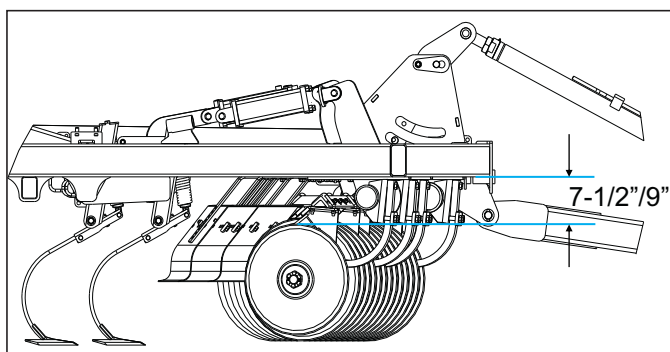

Figure 4-12: Disc Gang Operation
2. **MANUAL** – To set the disc gang depth with the manual ratchet jack adjustment, adjust the ratchet jack(s) on each section. Measure the distance between the top of the disc gang and the bottom of the Finishall frame. Setting this dimension to 7-1/2" will set the 22"diameter blades 1" above the sweeps ***See Figure 4-12.***
- a. Adjust the center frame cylinder anchors until there is 9” between the top of the 22” disc gang blades and the bottom of the frame **See Figure 4-12**.